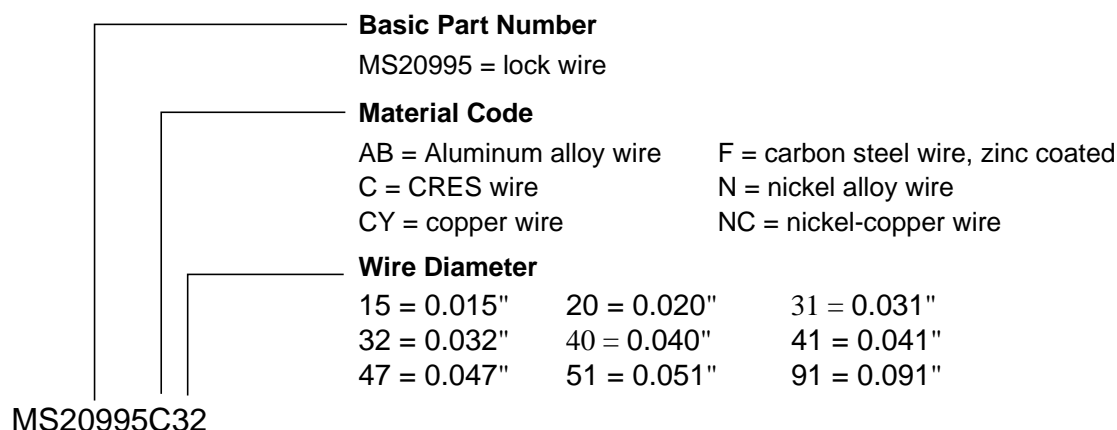

Figure 1 - Lock Wire Part Number Breakdown
- 4.1.3 MS20995 lock wire to NASM20995. See Figure 1 for a part number breakdown.